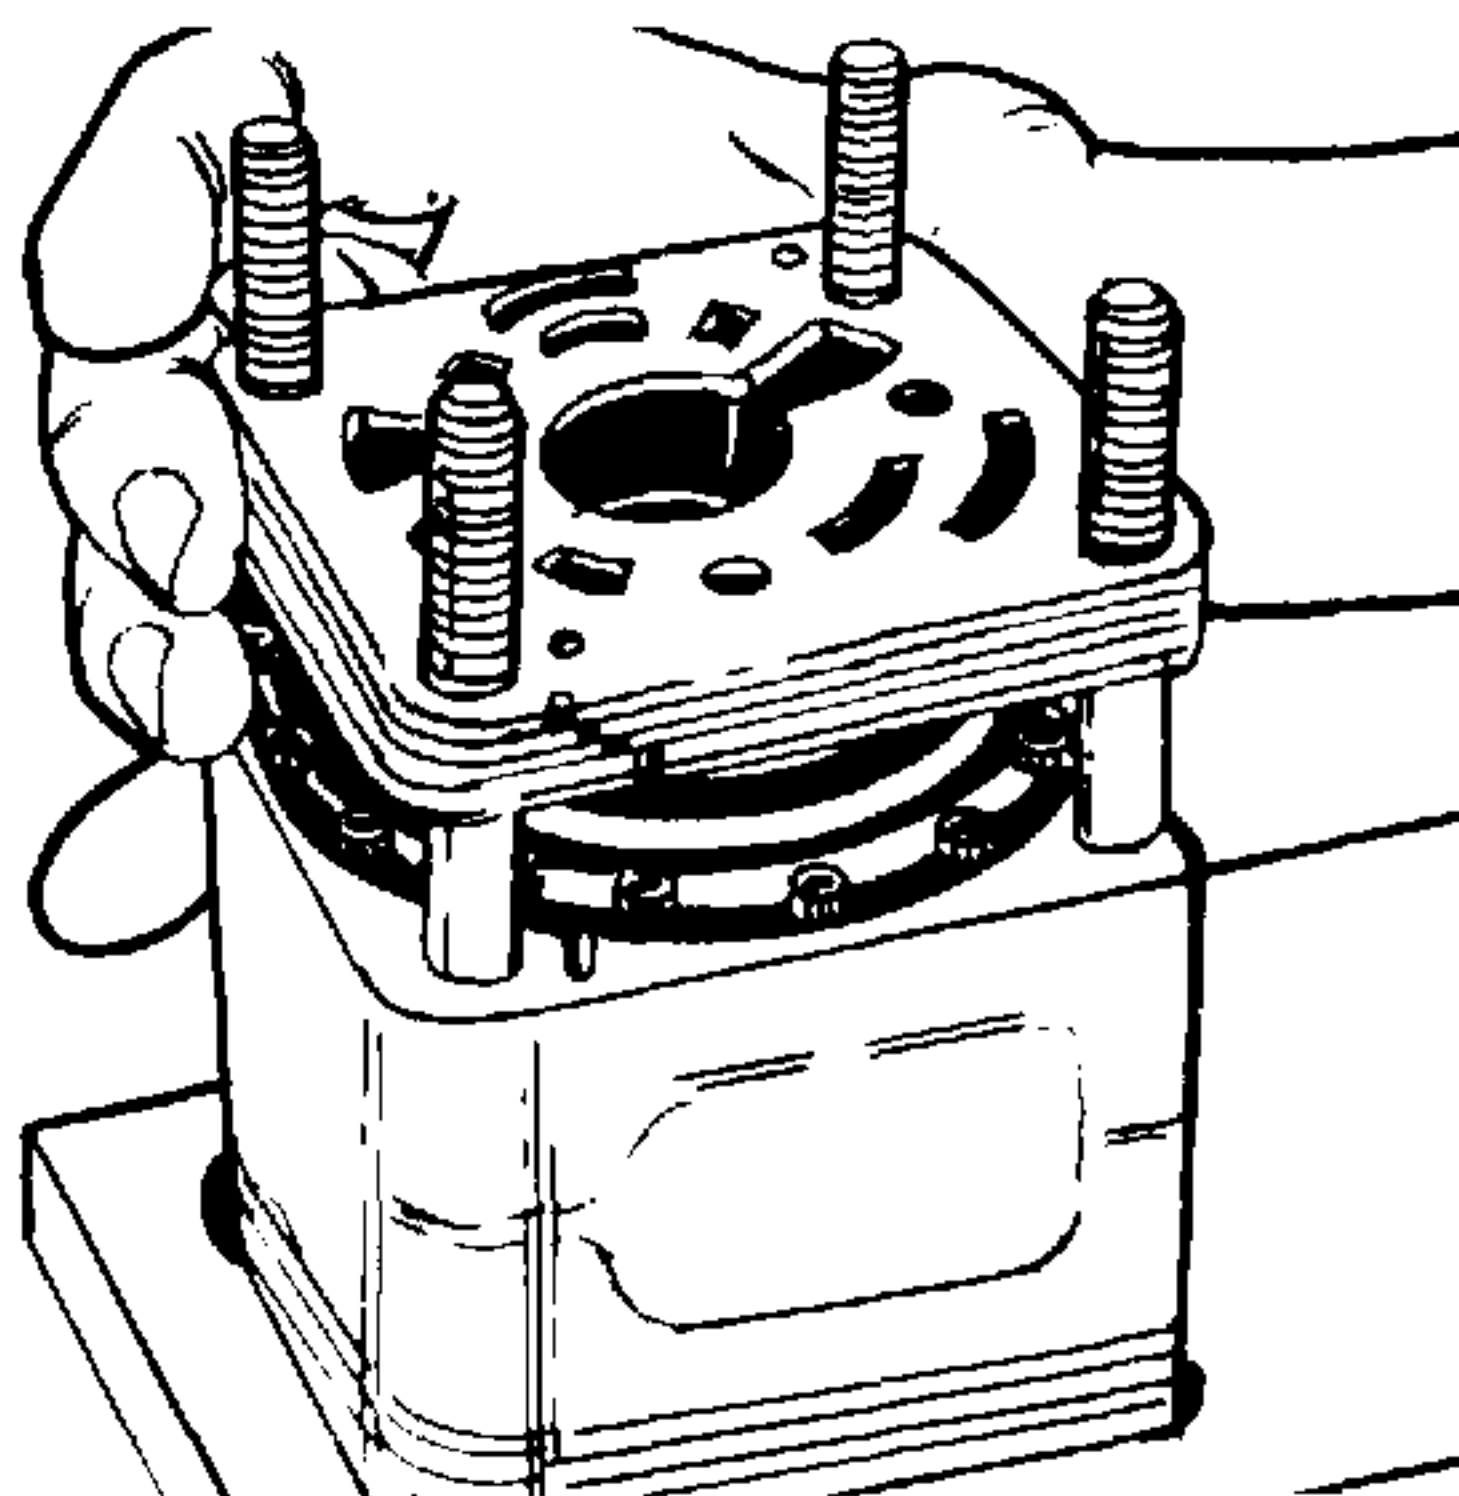

Figure 4-77. Installing Isolation Manifold.
29. Stack the isolation manifold (13, Figure 4-1) (4 plates bonded together) onto the metering ring (39) aligning the grooves on the side of the manifold with the grooves on the side of the upper cover plate (30) and the needle roller holes with the needle rollers in the metering ring. The isolation manifold surface without the recessed slots must be placed toward the metering ring. See Figure 4-77.